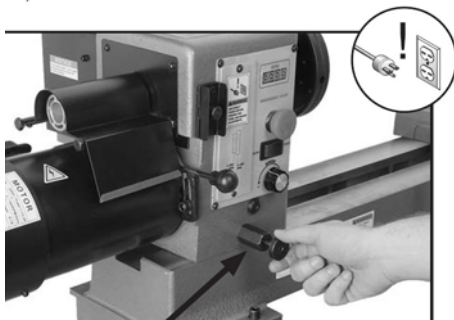

Fig. 19: Tilting the headstock
- Step 3: Pull out the swivel pin (Fig.19) and turn the headstock to the desired position.
- Step 4: Release the pivot bolt (Fig.19) to lock the headstock. Make sure that the pin is inserted into the headstock engages.